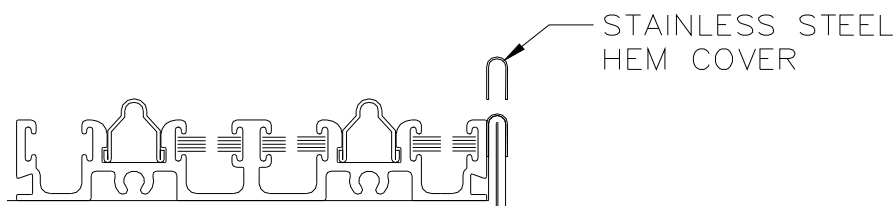

Figure 23:
1. Push the stainless steel hem cover over the inside water leg of the aluminum sillpan (Figure 23). The hem cover is used to improve the esthetics of the aluminum sillpan.